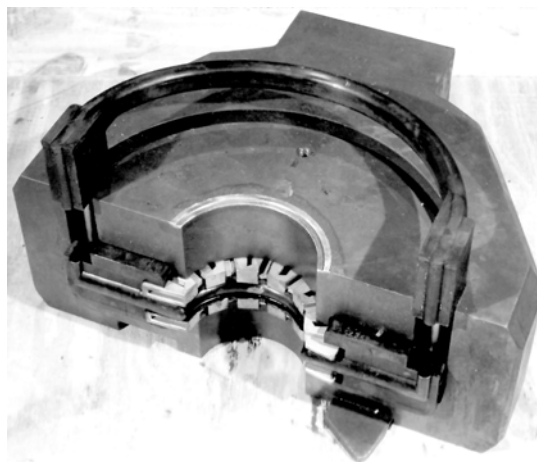

Figure 4-19. Remove Retainer Screw
2. Remove the retainer screw (see Figure 4-19).